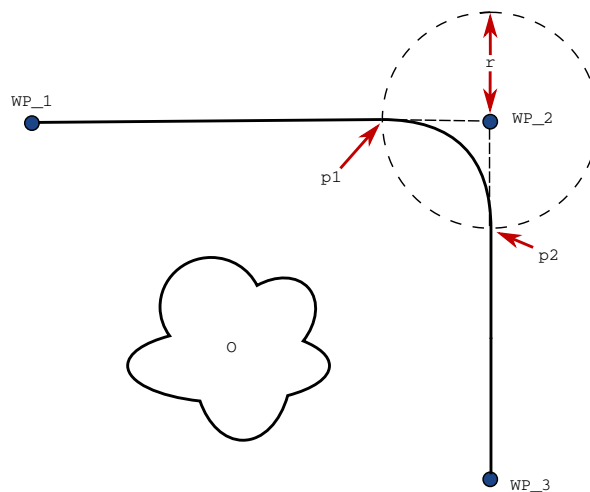

Figure 15.3: Blend over WP\_2 with radius  $r$ , initial blend position at  $p1$  and final blend position at  $p2$ .  $o$  is an obstacle.
**Blend parameters** Apart from the waypoints, multiple parameters will influence the blend trajectory (see figure 15.3):